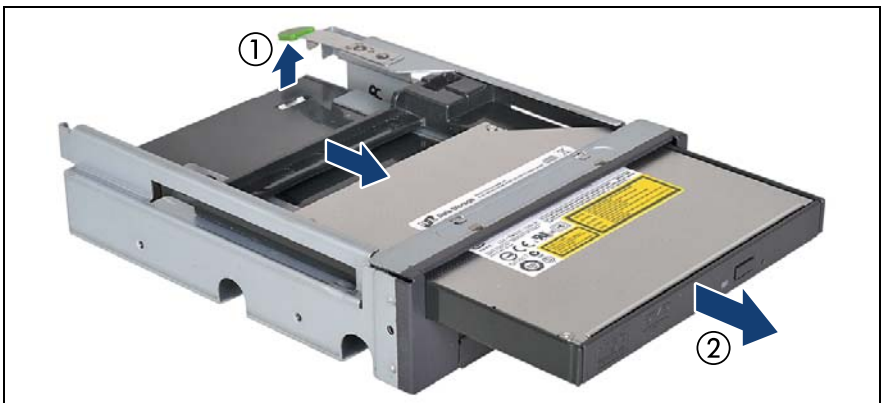

Figure 212: Removing the slimline ODD from the Multibay box
- ▶ Press up on the locking tab to disengage the slimline ODD dummy module as shown in figure 212 on page 297.